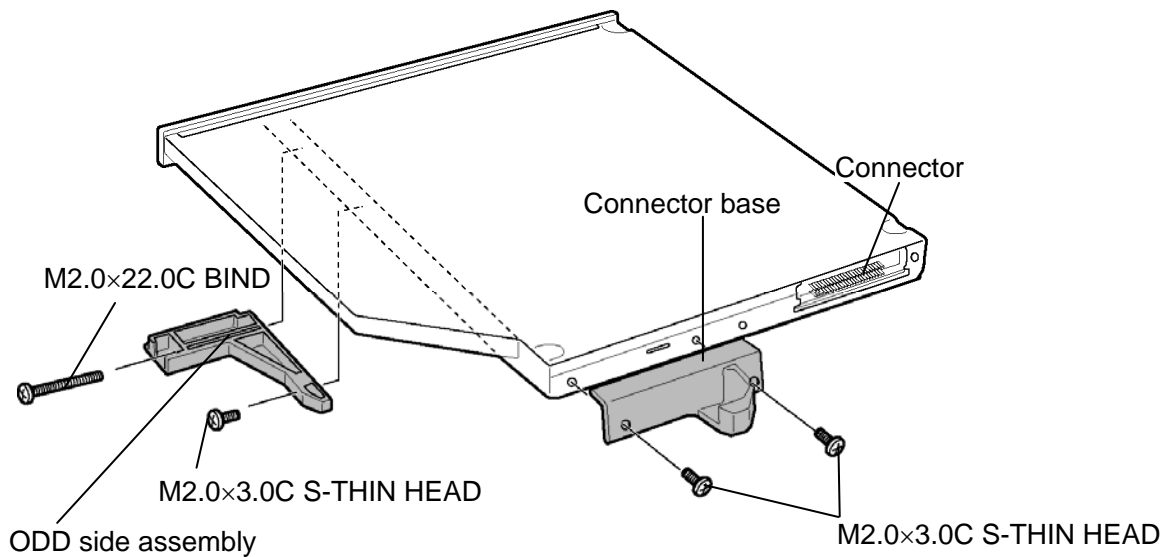

Figure 4-10 Detaching the optical drive assembly
3. While sliding the **latch** toward the arrow direction in the Figure 4-10, push the **hook** of the slim select bay module and pull out the **slim select bay module** to disconnect it from the system board.